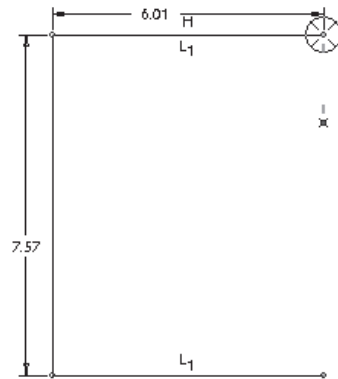

Figure 1-5 Cursor moved out of the **Target** symbol perpendicular to the endpoint
2. Specify three points in the drawing area to draw an arc. If you want to draw an arc from the endpoint of an existing entity, select its endpoint. As soon as you select the endpoint, the **Target** symbol appears at the endpoint of the entity. Move the cursor along the tangent direction through a small distance, a yellow rubber-band arc appears with one end attached to the endpoint of the entity and the other end attached to the cursor. Note that if you move the cursor in a direction perpendicular to the line, the arc is drawn by specifying three points. In this case, the rubber-band arc does not appear, as shown in Figure 1-5.